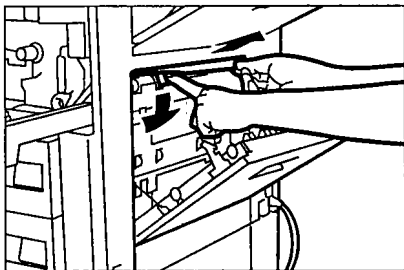

Figure 1-21
- 2) Open the copier's right door, and remove the jam while pushing the green lever as shown in Figure 1-21.